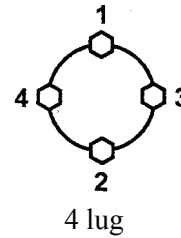

Figure 7
- c- Using the proper sequence shown in figure 7, tighten the lug nuts to the 1st stage torque as